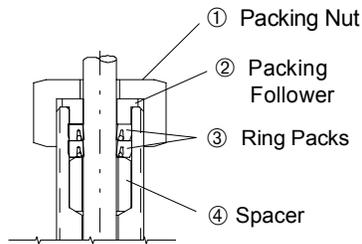

Figure 1: Valves with Ring Pack Seals
1. Refer to Figure 1. Remove and retain the brass packing nut ①. Remove and discard the existing packing follower ② (stem guide).
Refer to Figure 1. Remove and discard the existing packings ③. Use two sharp, pointed tools, one on each side of the stem, to hook and lift the packing out of the packing box. Remove the packing down to the spacer ④—the spacer will be reused. Check to make certain that no parts from the old packing, other than the spacer, remain in the stuffing box. Be careful not to scratch the stem or the packing box walls. Go to Step 3.
7. Refer to Figure 1. Slide the new packing follower ② onto the stem with the flanged end up. Use the packing follower to push the ring packs ③ into position in the stuffing box.
8. Refer to Figure 1. Install the packing nut ① onto the stuffing box. Tighten the packing nut 1/8 turn past “finger tight.”